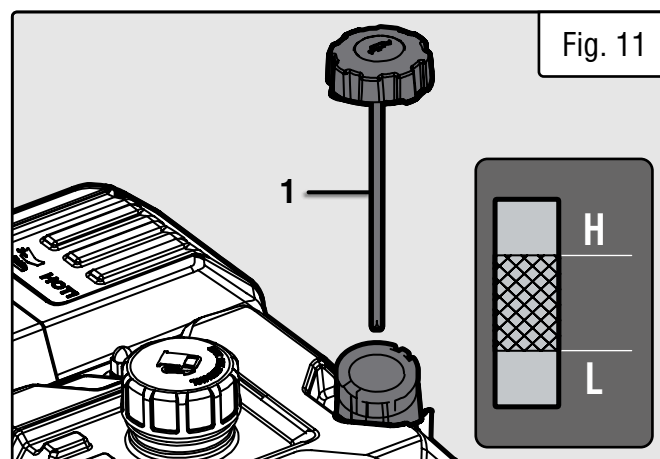

Fig. 11
2. Unscrew the oil dipstick (Fig. 11 - 1) from the engine.